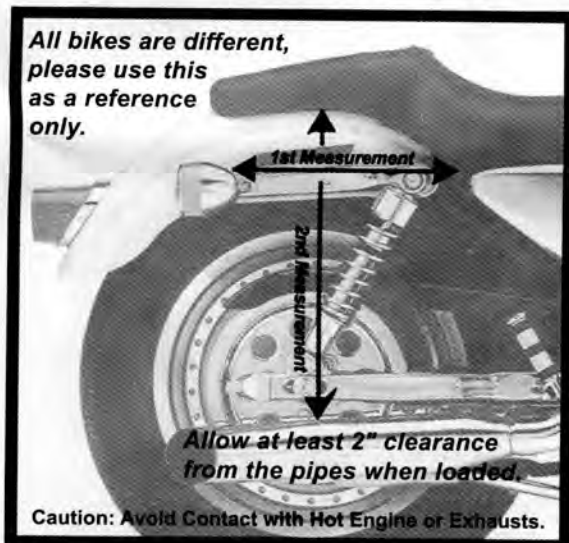

Figure 1
1. Measure side to side, from the back of the saddle, (riders position) to the arm of the directional signal, and compare the width measurements of the desired Willie & Max saddlebag. This measurement should be greater than the bag width. Use figure 1 below for reference.